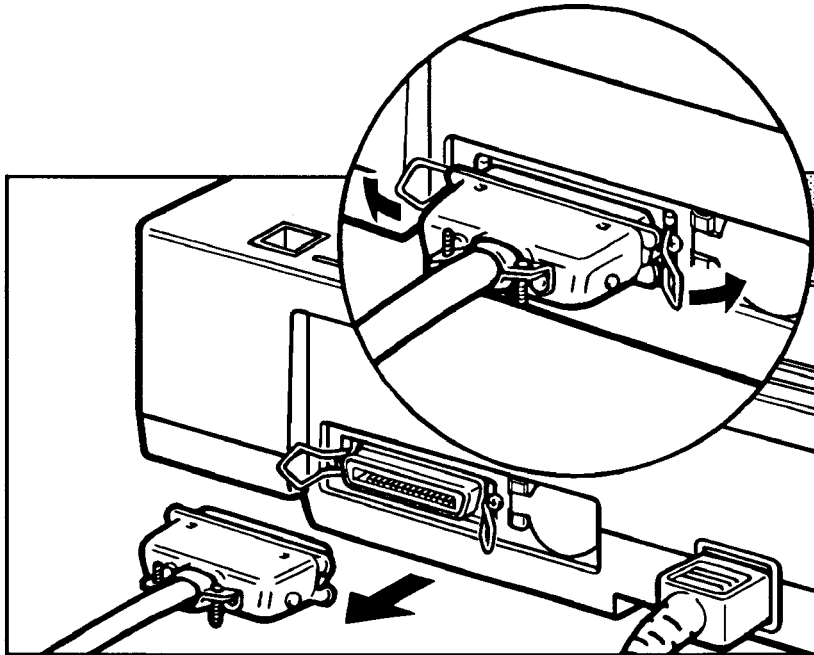

Figure 13. Disconnecting the Interface Cable
4. Disconnect the interface cable from ScanJet Plus. See figure 13.